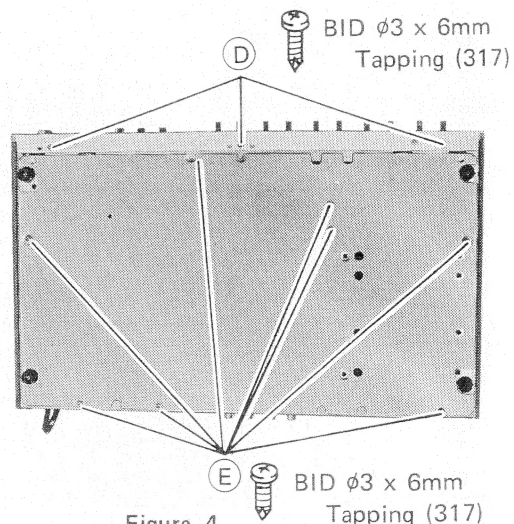

Figure 4.
1. Remove 8 screws (E). See figure 4.
1. Remove 6 screws (D) after 10 Knobs removal. See figures 4 and 5.